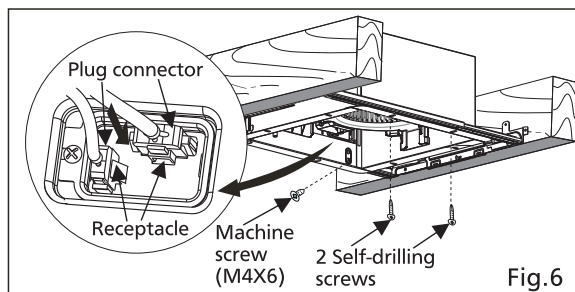

Fig.6
8. Insert fan body and slide into adaptor assembly until the flange overlaps the Flex-Z Fast™ bracket. Secure the fan body to Flex-Z Fast™ bracket by using 2 self-drilling screws, plug connector to receptacle and secure the fan body to adaptor by using machine screw (M4X6). (Fig.6)